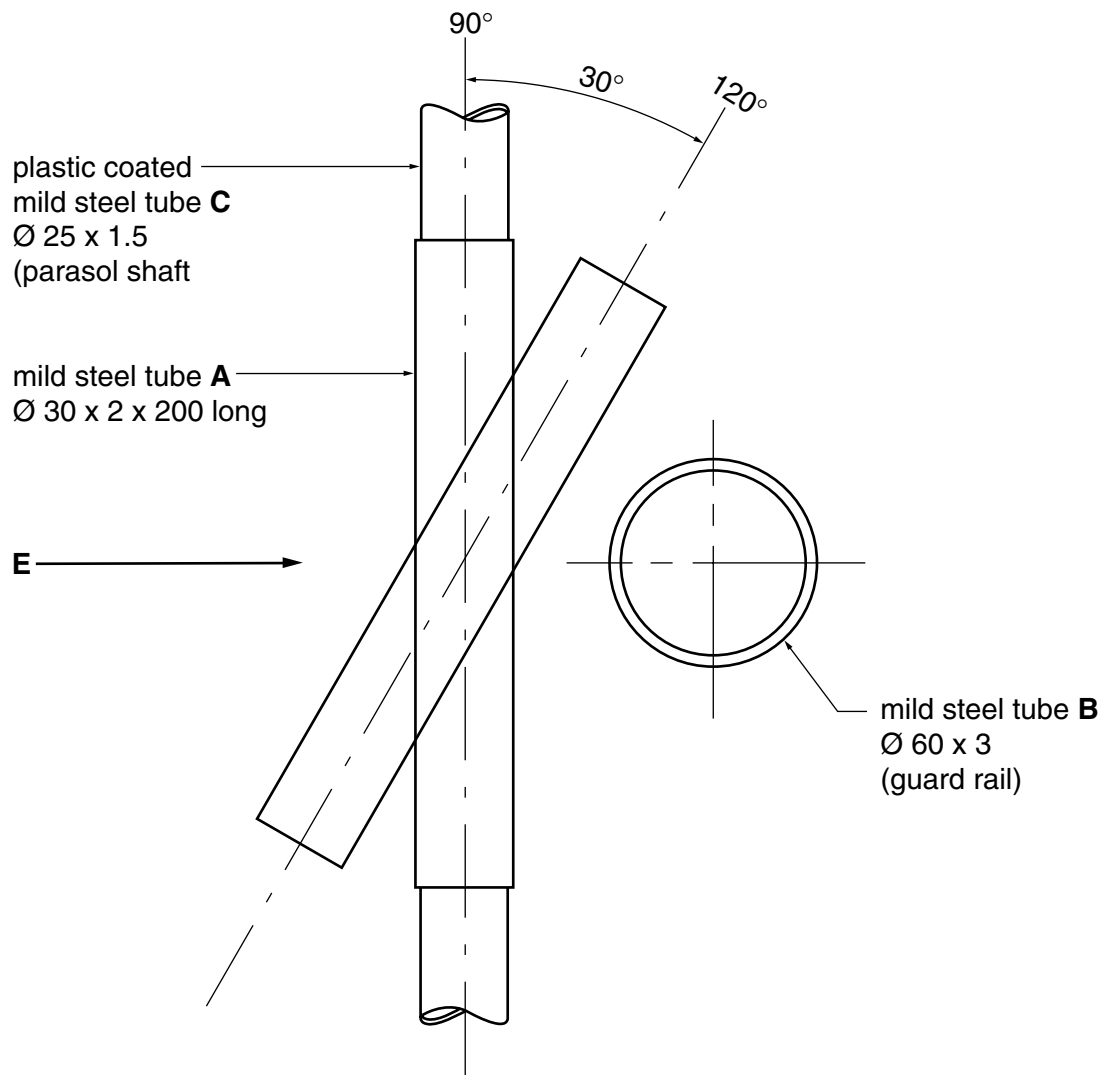

Fig. 6.2
Fig. 6.2 on page 11, shows incomplete details of the fixing device for the parasols. Tube A is attached to the Ø60 guard rail B. Parasol shaft C is inserted into the Ø30 tube A and secured at an appropriate height. The parasol can be pivoted from 90° (vertical) to 120° depending on the position of the sun.
- (b) allowing tube A to pivot and be fixed at any position from 90° to 120° as shown in Fig. 6.2;